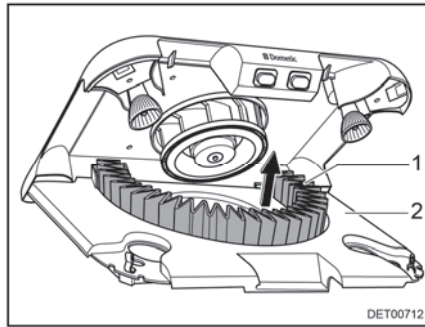

Fig. 129 Change the active carbon filter
- Remove the active carbon filter (Fig. 129,1) of the holder in upward direction.
- Swivel the filter holder (Fig. 129,2) upwards until it engages.